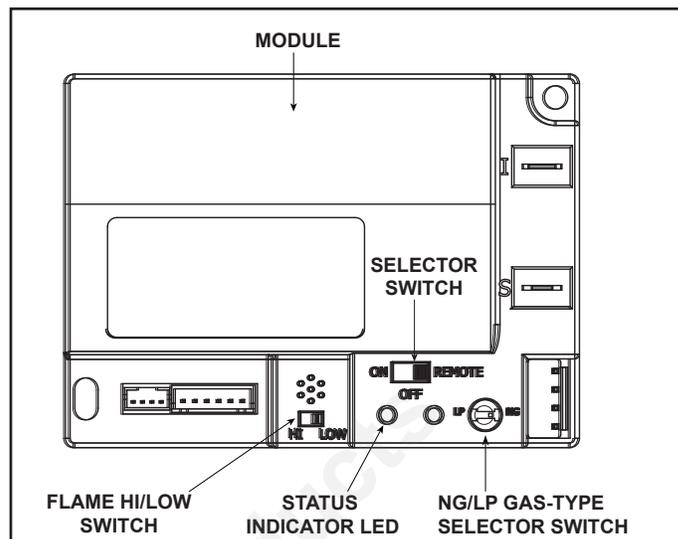

Figure 2.3 Control Module
1. The control module has an ON/OFF/REMOTE selector switch that must be set. See Figure 2.3.
2. If using a wired wall switch with the module in REMOTE mode, the flame output can be adjusted with the HI/LO selector switch on the module. See Figure 2.3. Note that the flame HI/LO selector switch will become inactive once an optional remote control is programmed to the control module. Note that the control module will always ignite the fireplace on HI and remain so for the initial 10 seconds of operation. If the HI/LO is switched to the LO position, the flame output will automatically drop to the lowest setting after the flame has been established for 10 sec. After this 10 second period, the flame can be adjusted from HI to LO with the switch.
- Locate the module selector switch. (See Figure 2.3).